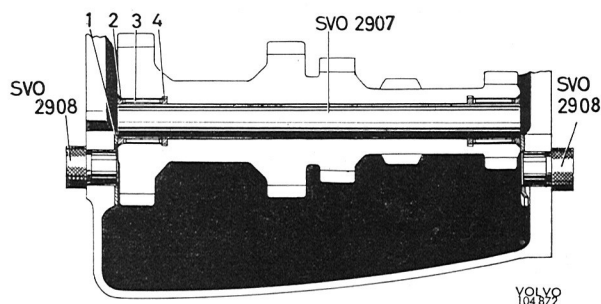

Fig. 4-38. Installation idler gear
3. Fix the washers to the housing with grease and guide them into position, with the centering plugs 2908, see Fig. 4-38. Lay the idler gear in the bottom of the housing.